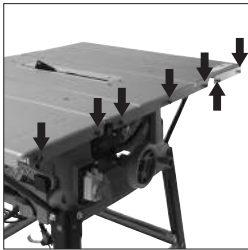

Fig. 11
- Attach the seven coach bolts (P) within the seven holes of the machine (two in each extension and three in the main aluminium table) using nut (O). Hand tighten only. (Fig. 11)